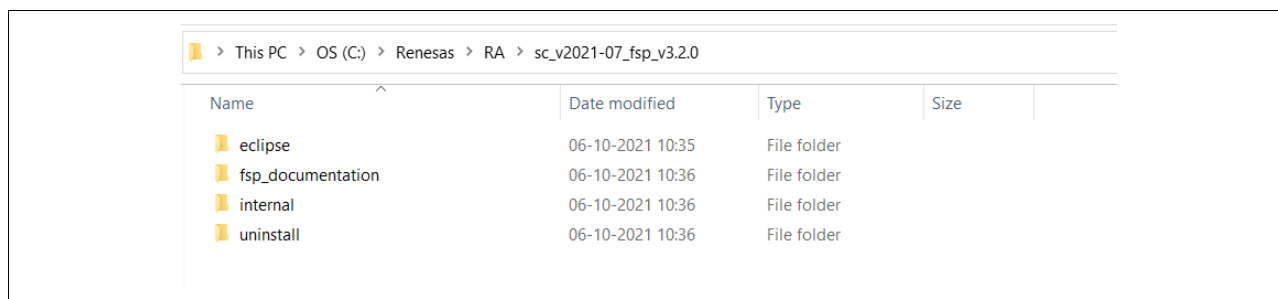

Figure 5. Installation Folders
- Locate the installation folder and check for the newly installed RASC folder for the desired FSP version. It will have folders as shown in Figure 5 (installed as a new instance in default directory):